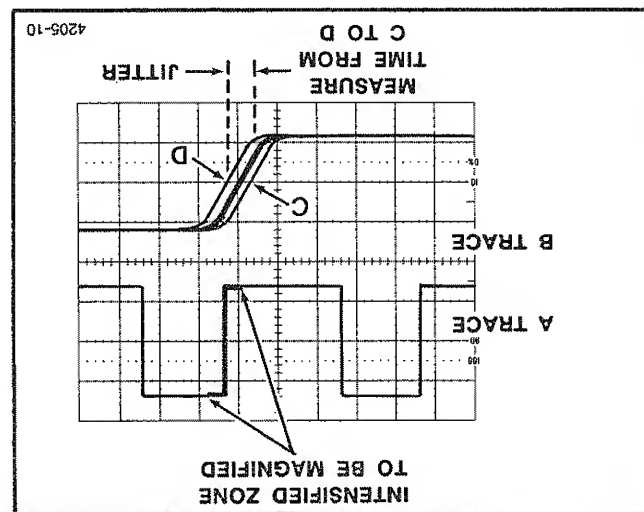

Fig. 4-6. Pulse jitter.
2. Referring to Figure 4-6, measure the difference between Point C and Point D in divisions and calculate the pulse jitter time using the following formula: